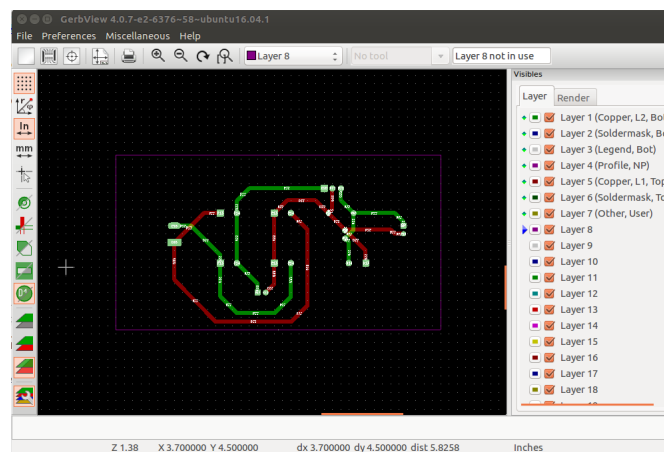

Figure 13.25: Observing the design in Gerber format
4. The design created earlier will appear in the gerbview window as shown in Fig. 13.25.